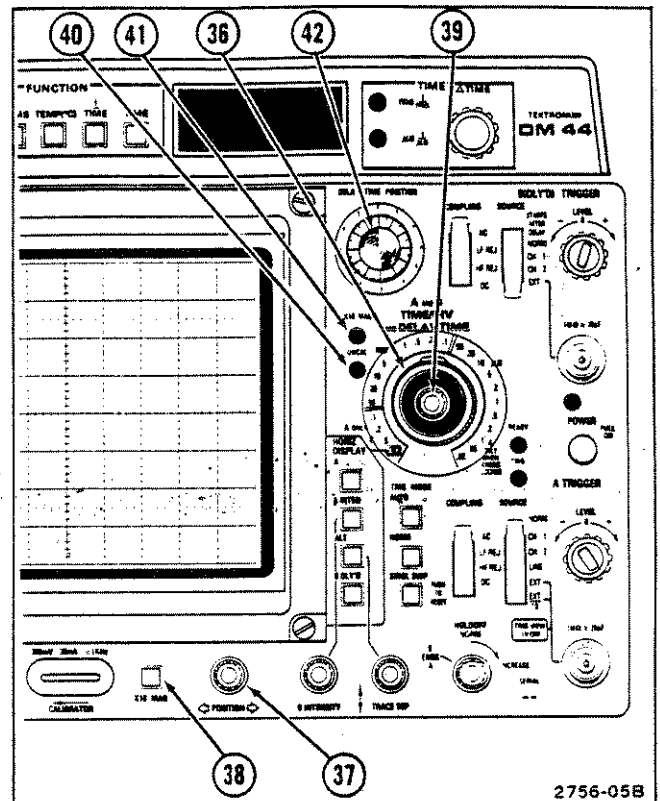

Figure 5. Horizontal controls and indicators.
Refer to Figures 5 and 6 for location of items 36 through 47.